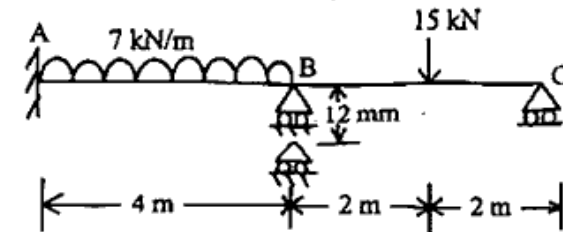

Figure 6 (आकृति 6)
7. The support B of a continuous beam shown in figure 6 has settled by 12 mm. Find out the moments at supports. 14